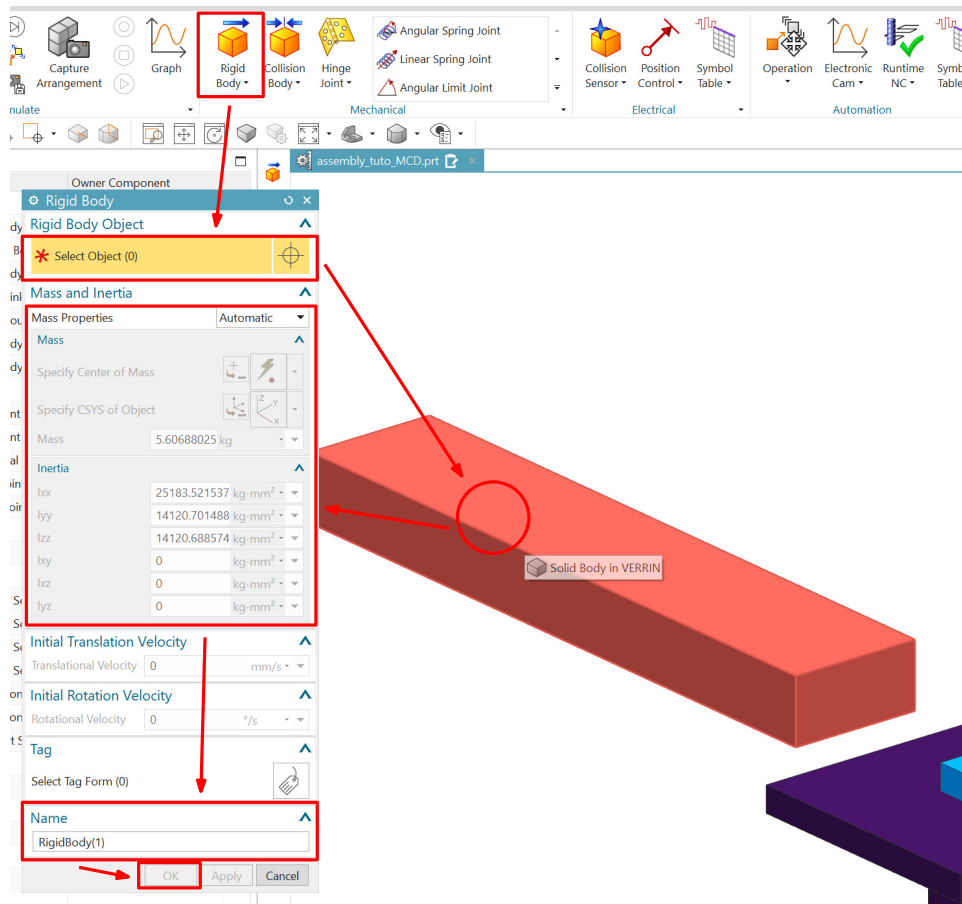

Figure 3: Creating a rigid body
1. To create a rigid body simply click on **Rigid body** then choose the part (the steps are shown on figure 3). The mass properties are automatically computed by default. They will depend on the material you assigned to your part in the design phase. In this tutorial the default values will be kept but in your projects be sure to assign correct materials from the beginning.